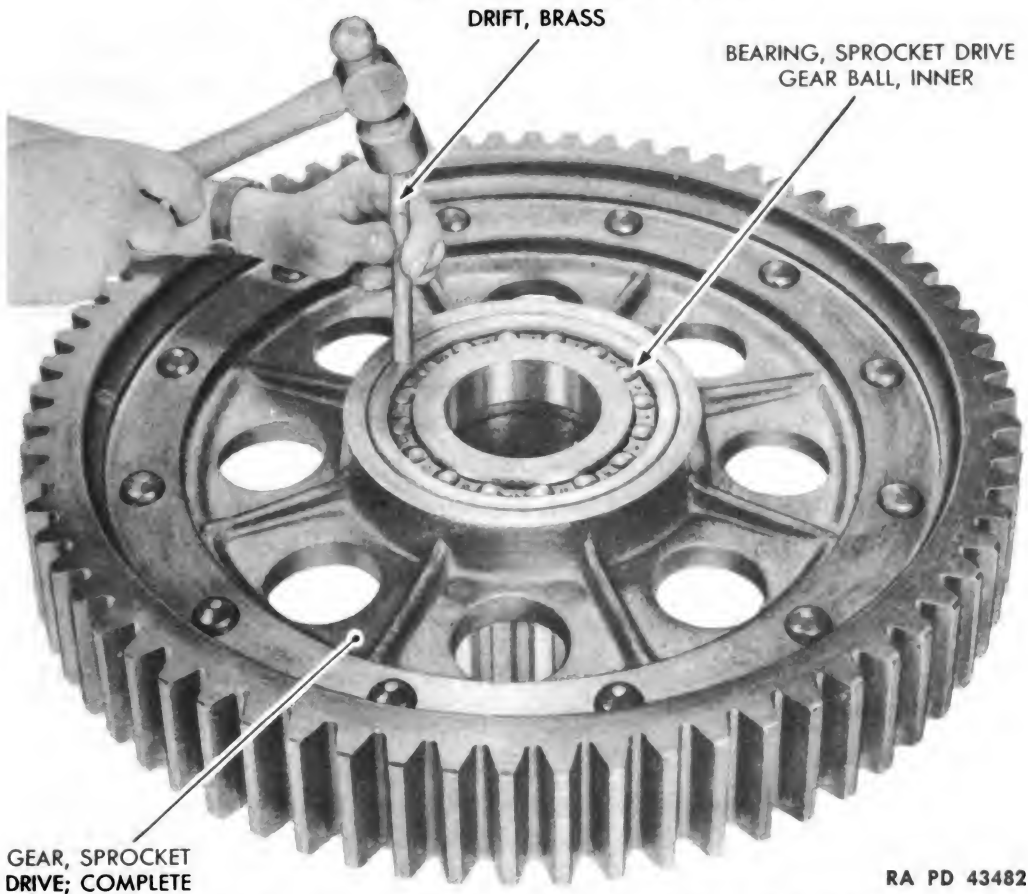

Figure 131 — Bearing in Sprocket Drive Gear; Complete Installation
(5) REMOVE INNER BEARING FROM SPROCKET DRIVE GEAR COMPLETE (reverse of fig. 131).
(5) INSTALL INNER SPROCKET DRIVE GEAR BALL BEARING (fig. 131).